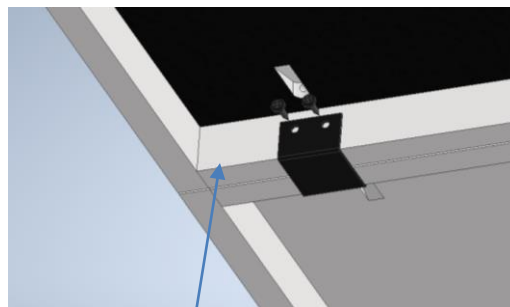

Figure 3
3. Position and secure another U-Bracket 2 inches from the back of the unit so that it encases the end panels of both units using the screws provided (Figure 3)